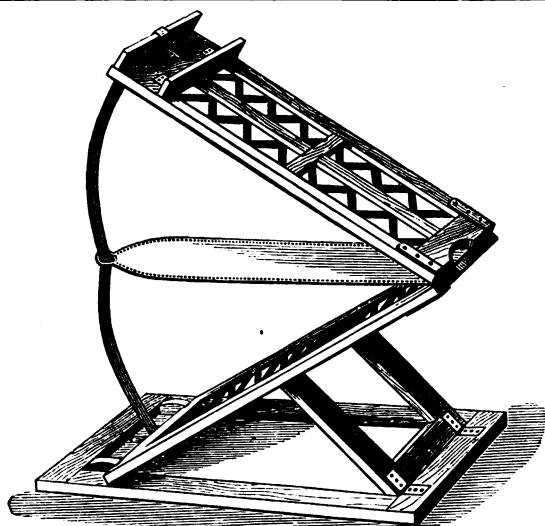

Fig. 42.
**When Two Bags are used.**—Boards slightly different are used, and are known as “double pressure boards,” although practically one, but arrangement must be made to compensate for the second bag being introduced, if two bags were placed under the ordinary boards intended for one, the space they would occupy would bring the top board upright, at right angles to the bottom, consequently it would not work or hold the weights, to compensate for this, the front part of the boards must be raised about a foot (Fig. 42). A bottom case or frame is made to which the regular board is hinged at the back, each side of this there is a number of sliplike racks or slots, in which the raising struts fix, allowing the bags to be tilted angle to angle; supposing this front was raised too high when the bags were nearly empty, the back of the boards would be very much lower than the front, and the weights would fall off; to secure them, two flaps are made, both folding inwards, the weights are placed between these and are thus secured in position, when bags are full and when empty. Double boards to be free of all risk should on no account ever have a flap between each bag, although it has been advised on former occasions in manuals on the lantern; reasons why this should not be done is dealt with later on. But a canvas should be placed between the top and bottom bags, with a hole at the end for the strap to pass through.